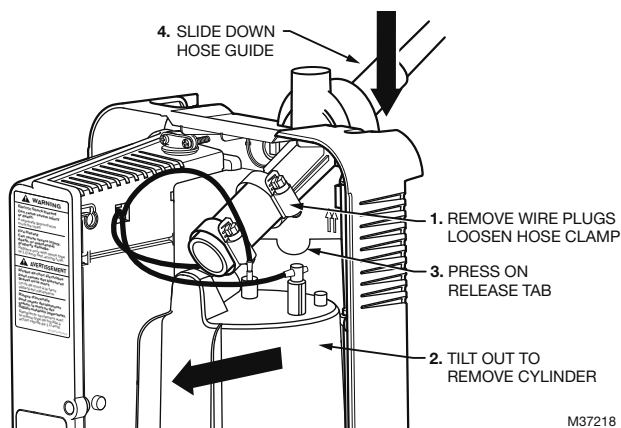

Fig. 15. Changing to duct mount configuration.
3. Loosen the hose clamp furthest from the cylinder steam outlet (the one attached to the plastic steam guide). Remove the cylinder with the short steam hose still attached. See Fig. 15.